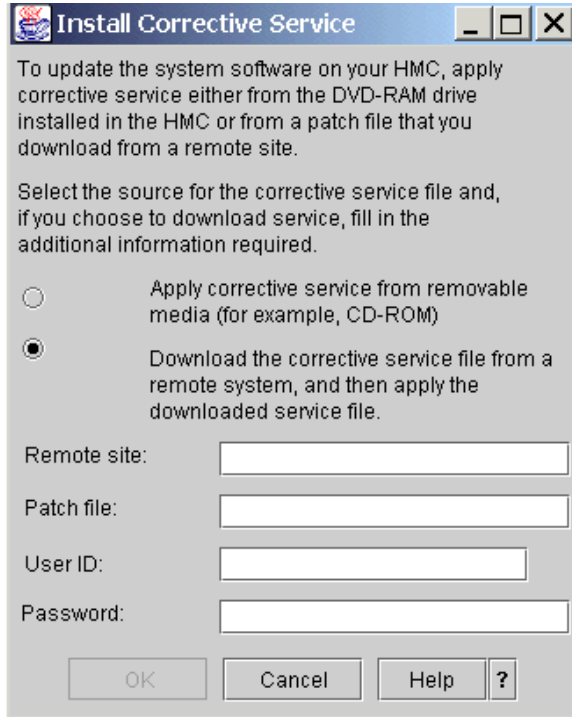

Figure 5-15 Install Corrective Service
4. Select **Install Corrective Service** to upgrade the HMC software. The user needs to select where the corrective service files are located, which can be either on a CD or a remote site. For this example, the files are located at a remote site (see Figure 5-15).